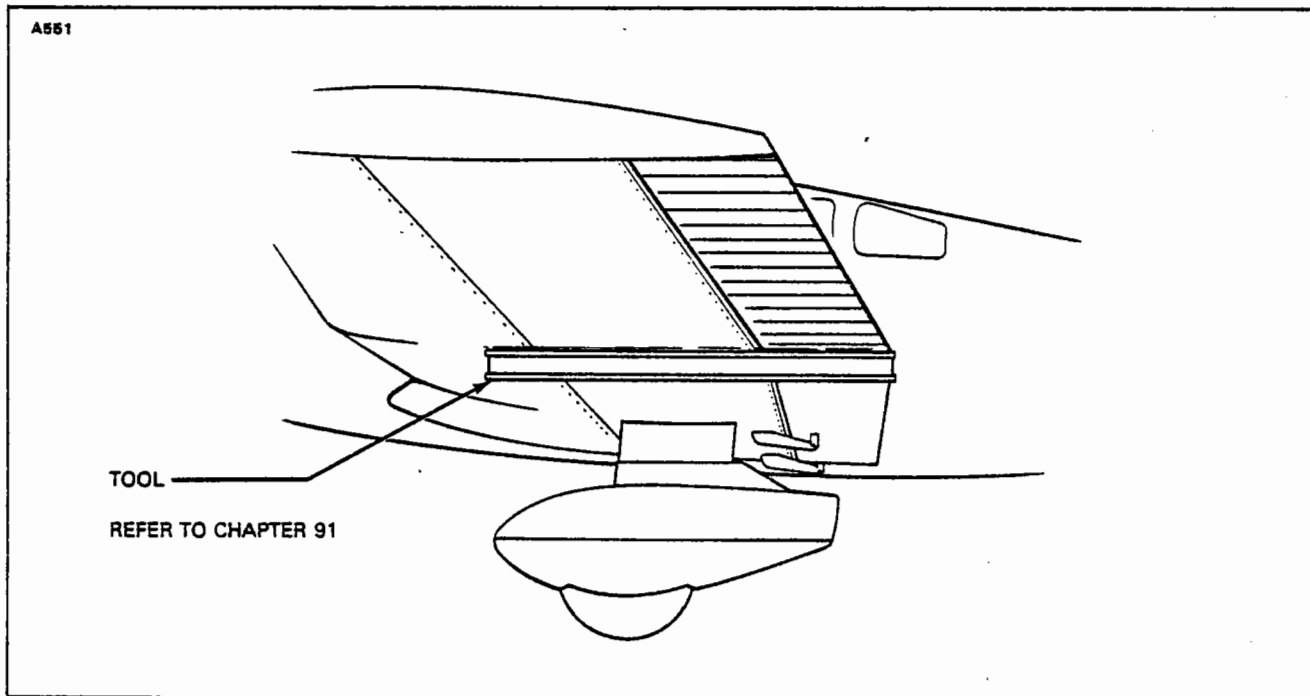

Figure 27-6. Aileron Rigging Tool
B. Place an aileron rigging tool as shown in Figure 27-6 against the underside of the wing and aileron as close as possible to the inboard end of the aileron without contacting any rivets. The tool must be positioned paralleled with the wing ribs, with the aft end of the tool, even with the trailing edge of the aileron. (This tool may be fabricated from dimensions given in Chapter 91.)